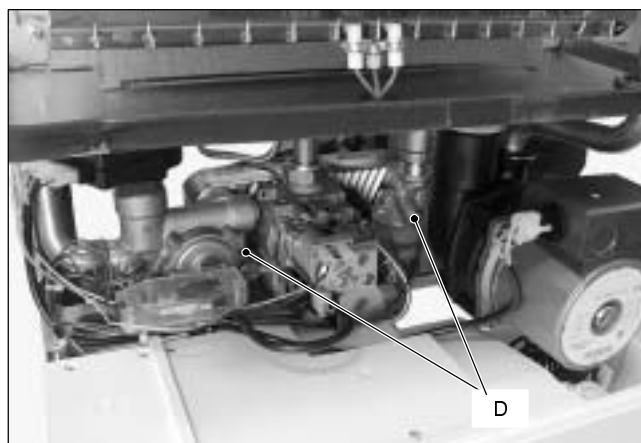

Fig. 16
- 5 Completely unscrew the two Allen key screws D (Fig. 16) which hold the exchanger to the brass groups.